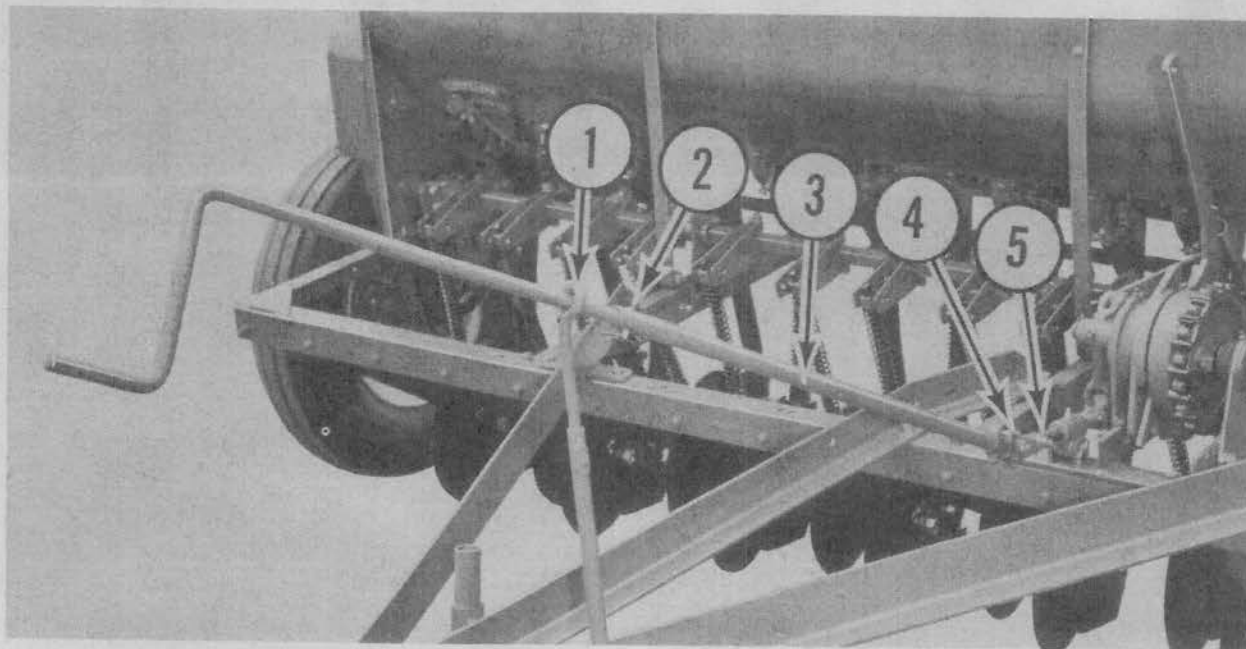

Fig. 31 - Depth Control Extension Crank
1. Attach the universal joint, No. 4, Fig. 31, to the depth adjusting screw on power lift as shown.
2. Install support, No. 1, Fig. 31, for cranks.
4. Adjust to proper length with pin, No. 2, Fig. 31, and lubricate universal joint and hand crank in support with motor oil.